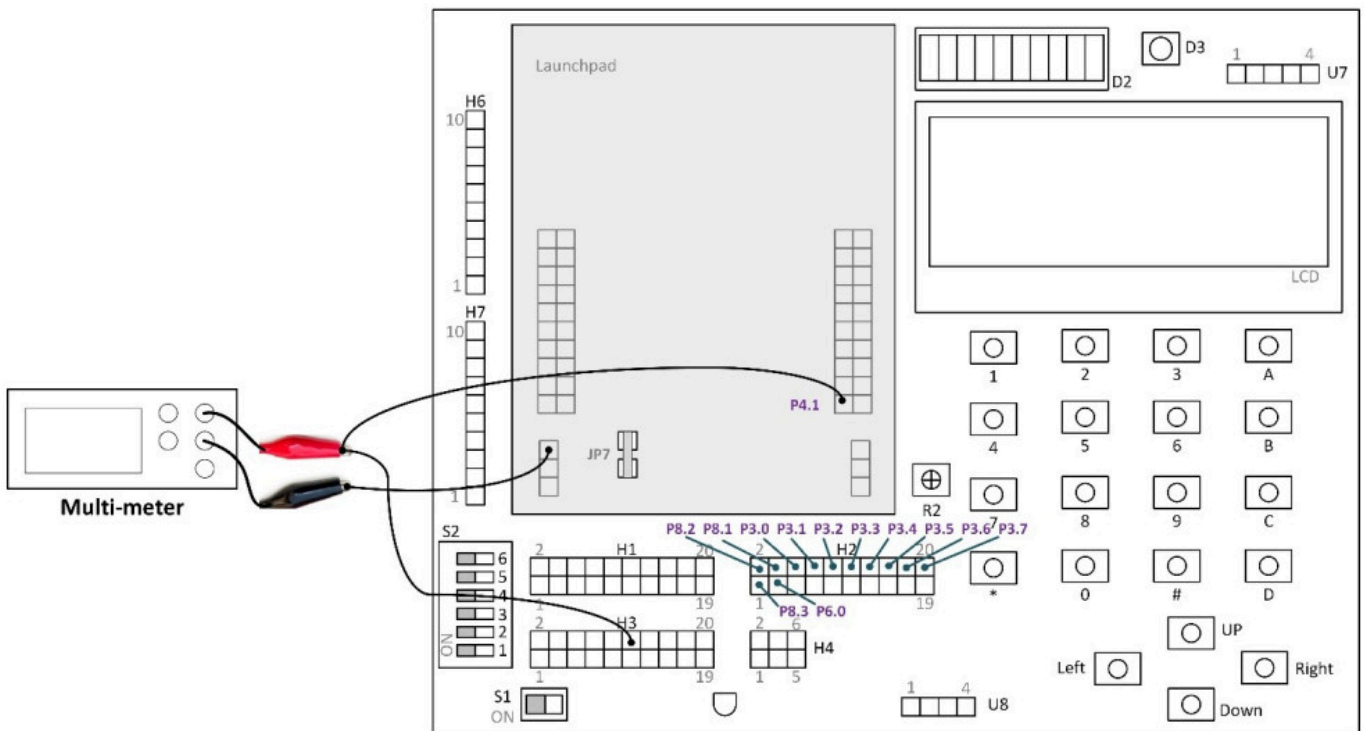

Figure 1. Connection
- Connect jumper wires as shown in Figure 1.